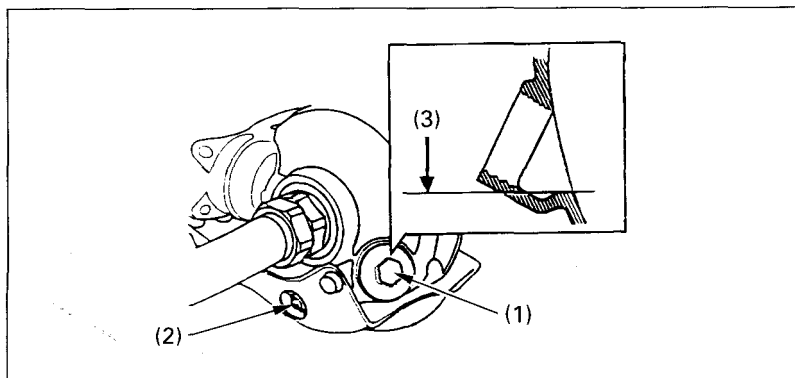

Fig. 4-15
1. To drain the oil, first place an oil drain pan under the oil drain plug (Fig. 4-15).
2. Remove the oil filler cap (1) and the drain plug (2).